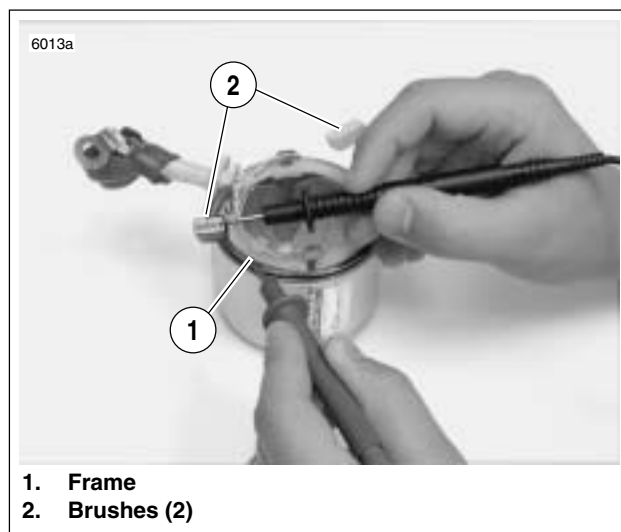

Figure 5-23. Grounded Field Test
12. See Figure 5-23. Check for GROUNDED FIELD COIL with an ohmmeter or continuity tester.
- a. Touch one probe to the frame (1).
- b. Touch the other probe to each of the brushes (2) attached to the field coil.